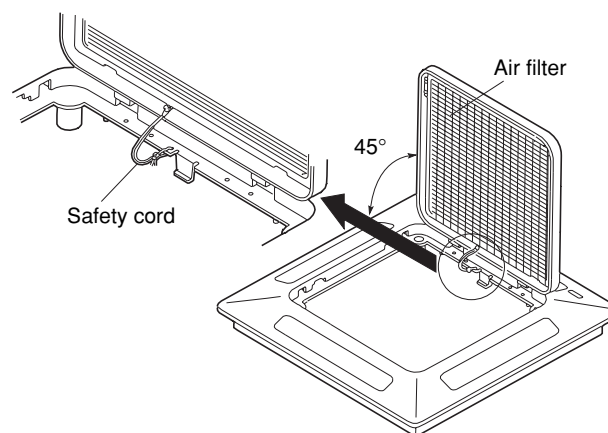

Fig. 3-14
- (c) With the air-intake grille open about 45°, remove the safety cord (hook on the grille side). (Fig. 3-14)